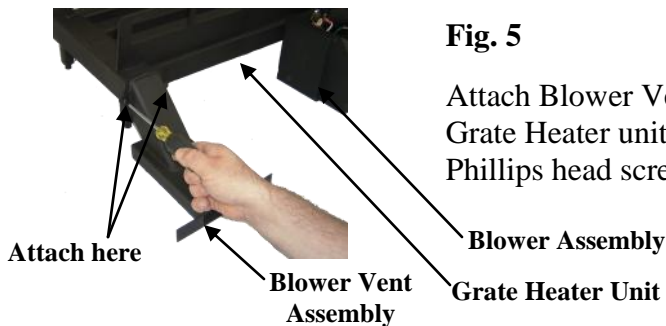

Fig. 5
- **Step 8.** Place Blower Vent Assembly on opposite side of Heat Grate from the Blower Assembly. Bolt to Heat Grate in same manner as Blower Assembly in Step 4. **(Fig. 5)**